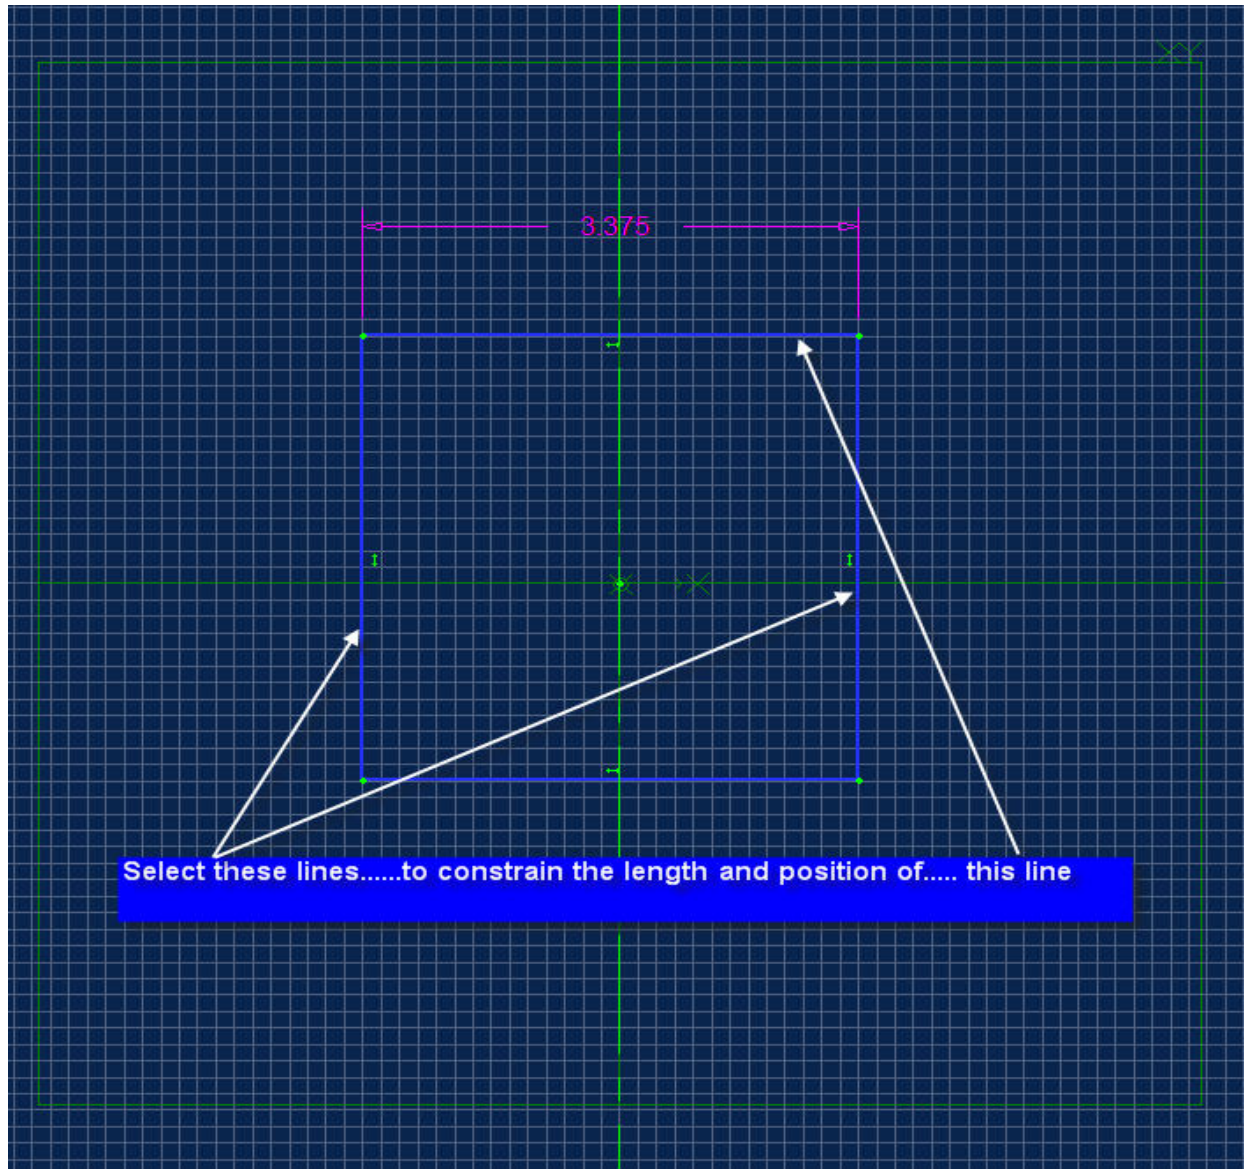

Figure 12
3. Add dimensional constraints (diameters, then radii's, then angles, then lengths). See figures 12 thru 14 for hints on the correct way to dimension sketches.
Good dimensioning practice recommends creating ‘distance’ constraints in lieu of ‘length’ constraints. Dimensioning a single elements length (see figure 12) only constrains the length of the element, and not the position of the part in the sketch. Instead, select the support or limiting elements to fully constrain the sketch element.